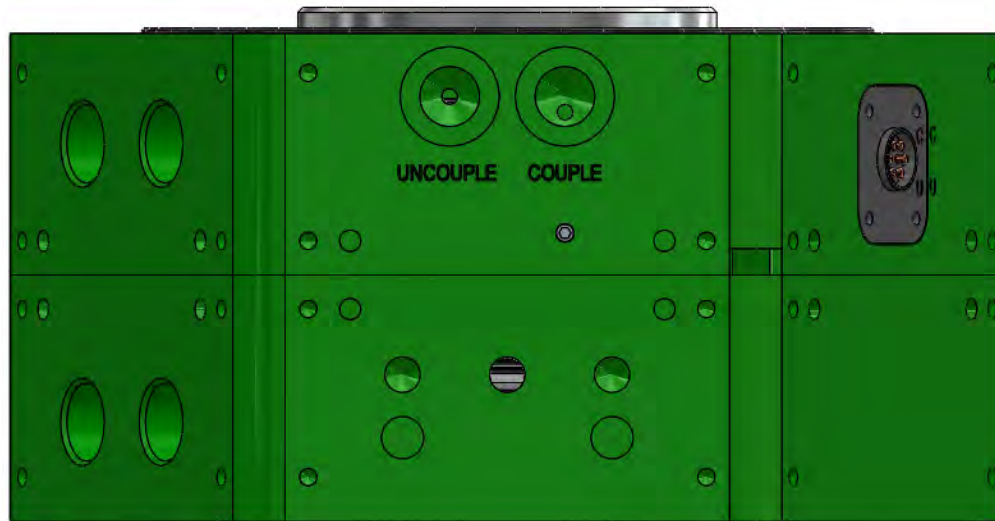

Figure 6.2-2. E125LP Tool Changer – Docked Position
5. Stop the motion when the distance between the Robot Adaptor interface surface and Tool Adaptor interface surface are touching or as close as can reasonably be achieved. At this time, any electrical or fluid connections will be made through the use of available side modules. Note that when the interface surfaces of the Robot Adaptor and Tool Adaptor are in contact, the outer edge of the Adaptors should be touching (Figure 6.2-2).